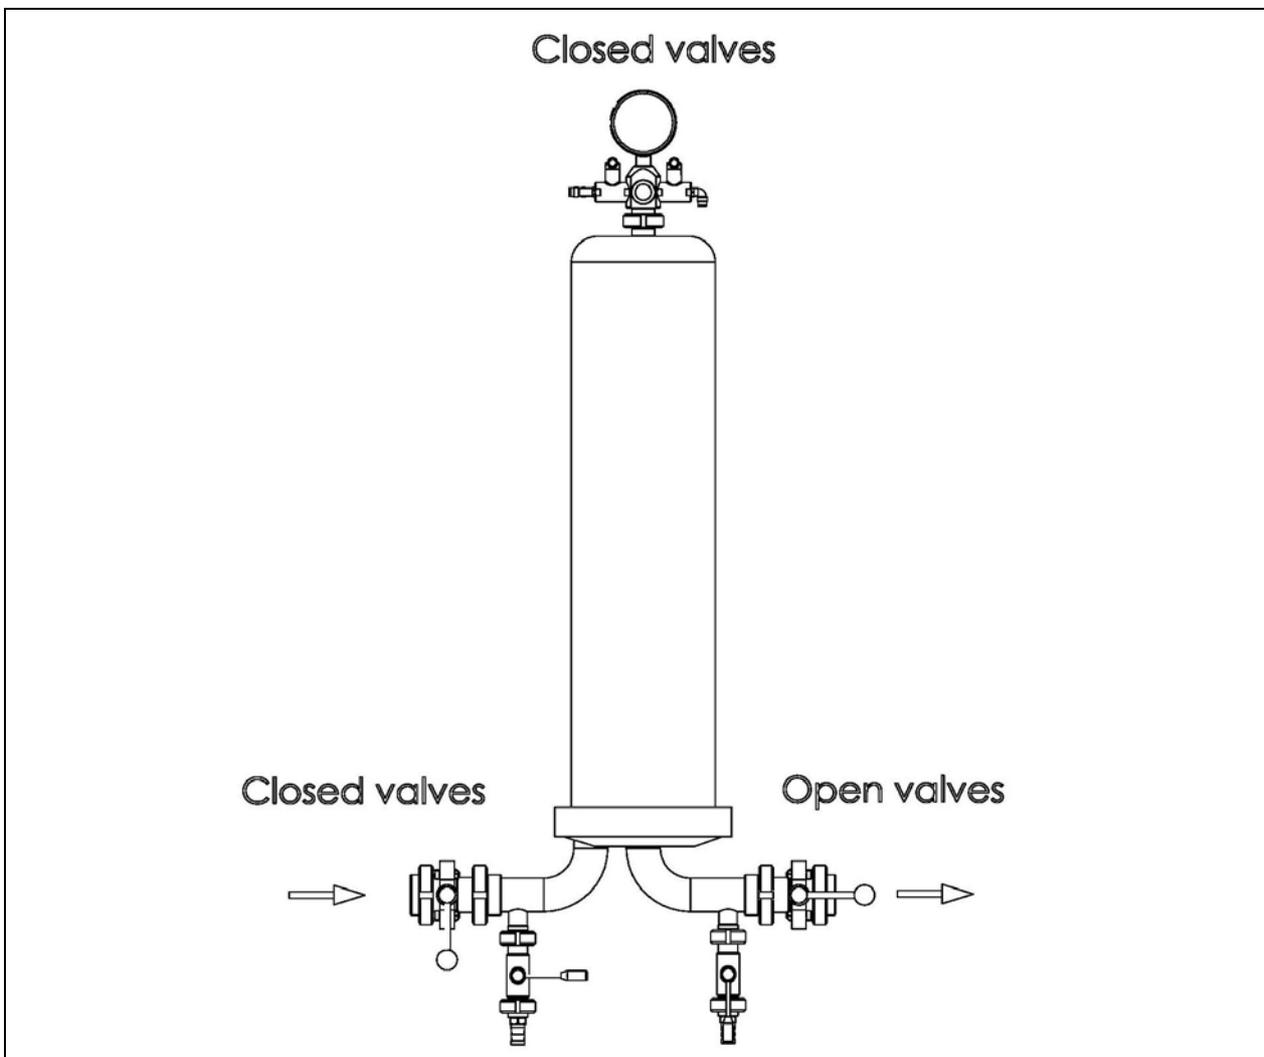

Fig. 3
- The QUALITY FILTRATION TEST® is an instrument which can establish and automatically calculate *the filterability index* (FI), *the modified filterability index* (MFI) and the *maximum filterable volume* (Vmax); the results, which are highly reproducible due to the high degree of standardisation which the instrument is capable of, are visualised on a liquid crystal display and are printed on paper. This function is important because in allows one to produce a written report of the process, which can be put on file.
5.2 The integrity test (Fig. 3)